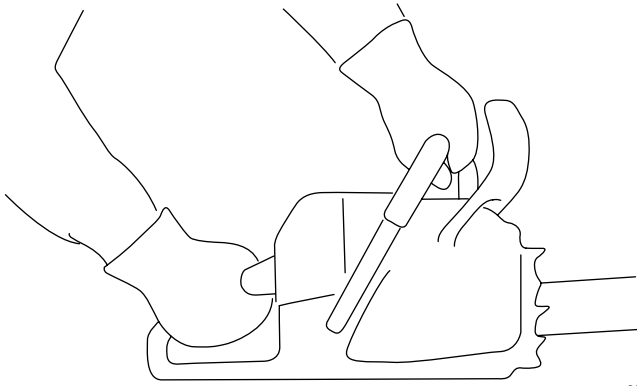

Figure 11
- Grip the chain saw with 2 hands, with your left hand on the front handle and your right hand on the rear handle as shown in Figure 11.
1. Grip the chain saw as shown in Figure 11.
3. Grip the chain saw as shown in (Figure 11).